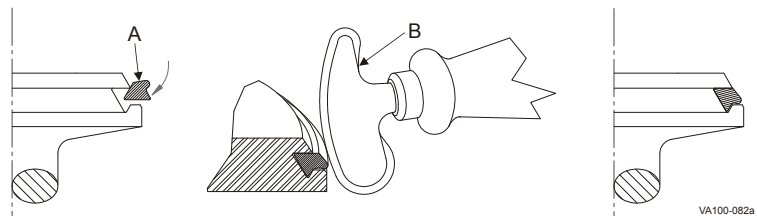
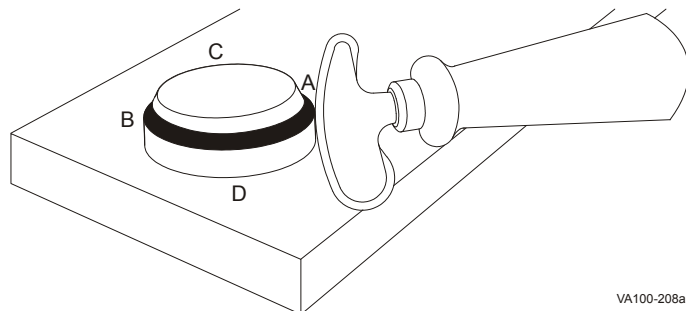

Figure 30: Installing New Tri Ring Seat
Figure 31: Pressing Tri Ring Into Plug
3. Lubricate the new Tri Ring (Figure 30, item A) with acceptable cleansing solution or lubricant.
5. Start the Tri Ring as shown in Figure 30.
6. Using the installation tool, part number 102797+ (Figure 30, item B), press the Tri Ring into the plug at locations A, B, C, and D (Figure 31). If the tool is not used, DO NOT use a knife or any other sharp item that will tear or cut the Tri Ring.
8. When properly installed, the Tri Ring seat lip will protrude slightly from the seat edge as shown in Figure 30.